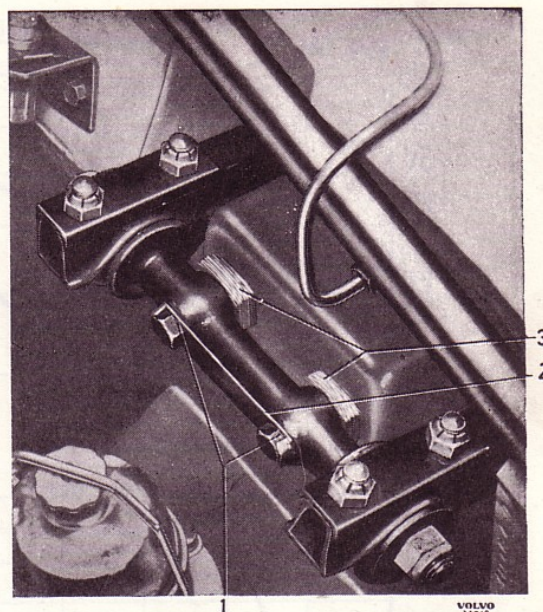
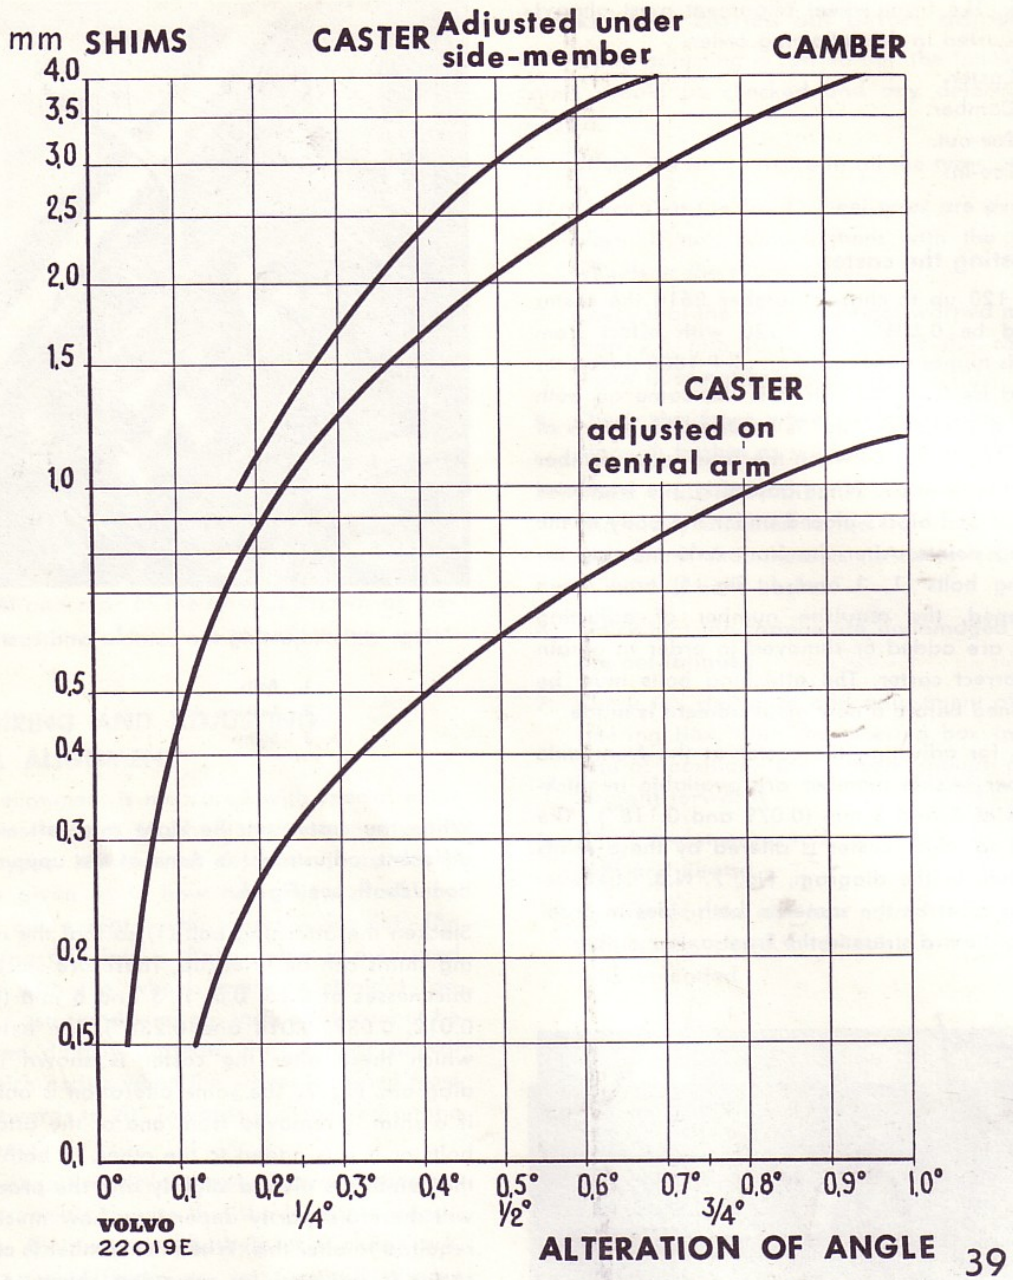

Fig. 6. Adjusting the camber and caster.
Fig. 7. Diagram for alteration of camber and caster.
Shims for adjusting the caster at the front axle member — side member are available in thicknesses of 2 and 3 mm (0.079 and 0.118"). The extent to which caster is altered by these shims is shown in the diagram, Fig. 7. **N.B.** The alterations must be the same on both sides in order to avoid extra stress in the front axle member.
When the caster on the right and left sides is different, adjustment is done at the upper wishbone shaft, see Fig. 6.
Slacken the attaching bolt (1) so that the adjusting shims can be lifted up. These are stocked in thicknesses of 0.15, 0.5, 1, 3 and 6 mm (0.006, 0.012, 0.039, 0.018 and 0.236"). The extent to which these alter the caster is shown in the diagram, Fig. 7. The same alteration is obtained if a shim is removed from one of the attaching bolts or if it is added to the other. In both cases the camber is altered slightly and the procedure will therefore partly depend on how much it is required to alter this. **When the camber is correct, caster is adjusted by removing shims.** Always tighten the attaching bolts to a torque of 4.8–5.5 kgm (35–40 ft.lb.) before making a new measurement. When the correct caster has been obtained, the attaching bolts are locked with the locking plate (2, Fig. 6).
The camber should be 0 to $+1/2^\circ$ and is adjusted by means of shims (3, Fig. 6) at the upper wishbone shaft. When doing this, the attaching bolts (1)
Shims are stocked in the following thicknesses: 0.15, 0.5, 1, 3 and 6 mm (0.006, 0.012, 0.039, 0.018 and 0.236"). The extent to which the shims alter the angle can be seen from the diagram, Fig. 7.
When the correct camber has been obtained, the attaching bolts are locked with the locking plate (2, Fig. 6).